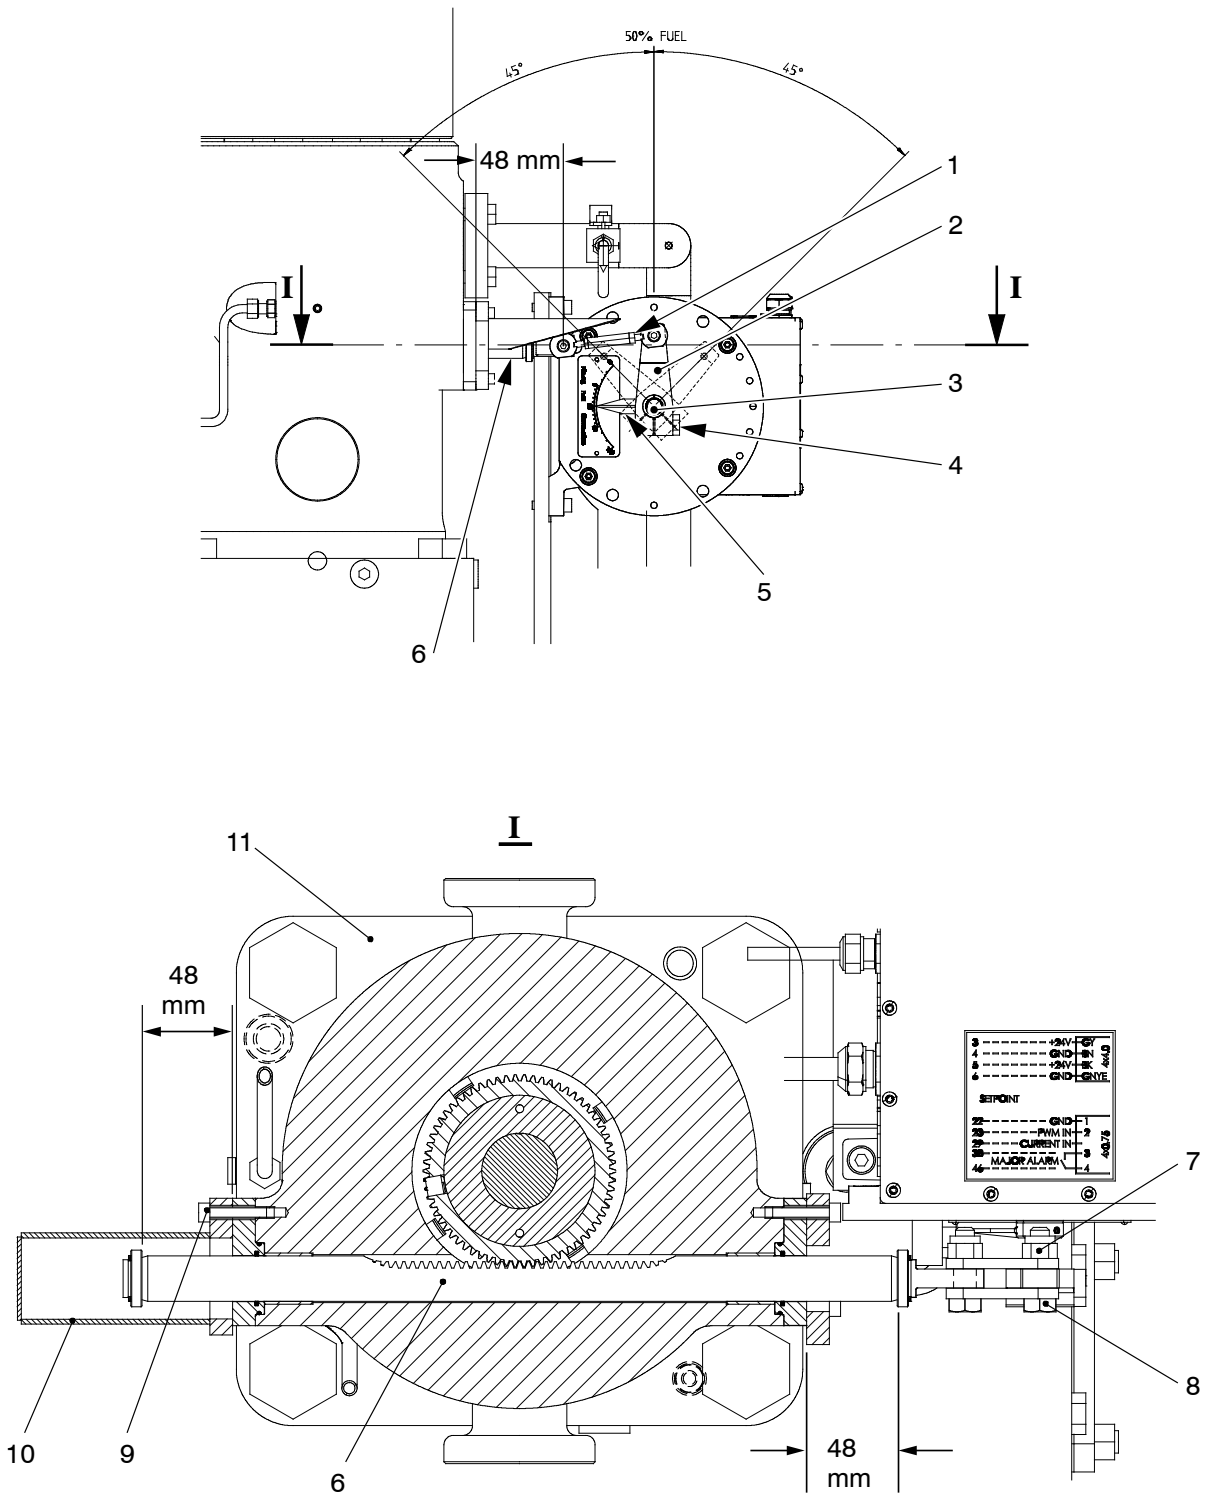

Fig. 1
- 2) Make sure that the connecting element (1, Fig 1) is disconnected from the lever (2).
- 3) Put the lever (2) in position on the shaft (3).
- 4) Temporarily tighten the screw (4) on the shaft (3). Move the shaft (3) to get the indicator (5) to the **50%** fuel position. Loosen the screws (4) from the shaft (3).
- 5) Remove the six screws (9), then remove the cover (10).
- 6) Move the toothed rack (6) to get a distance of **48 mm** at each end. The distance between both rack ends must be equal.
- 7) Attach the lever (2) to the connecting element (1) with the screw (8) and the self-locking nut (7). Make sure that the toothed rack (6) stays in position and the indicator (5) position shows **50%**.
- 8) Tighten the screw (4) on the shaft (3).
- 9) Attach the cover (10) to the fuel pump (11) with the six screws (9).